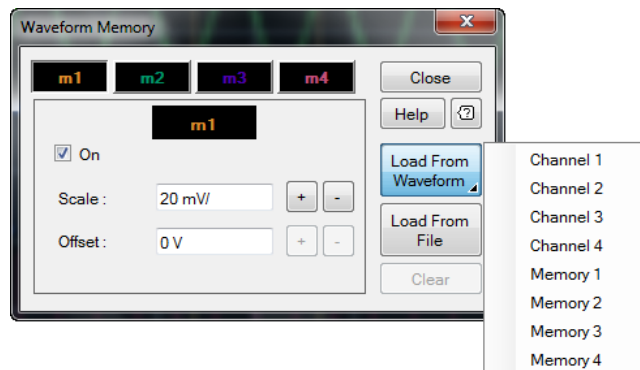

Figure 2-47 Load from waveform selection
- 4 Select **Load From Waveform** to load the waveform from channel 1 to 4 or waveform memory as shown in Figure 2-47. The waveform memory selection is only available if the waveform memory is enabled.